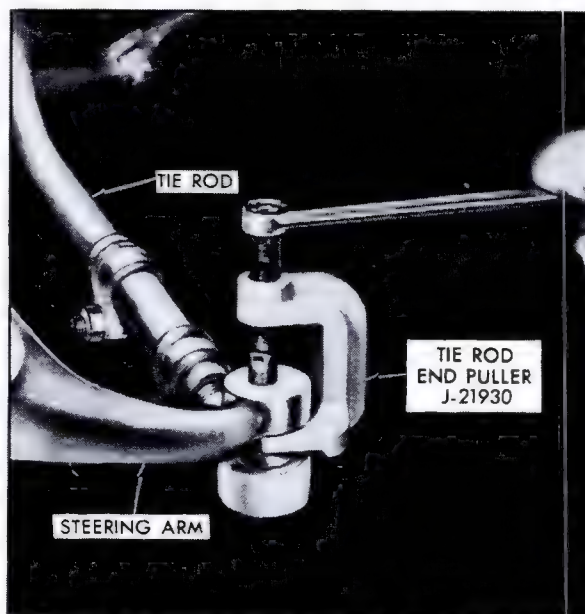

Fig. 9-39 Removing Tie Rod from Steering Arm
2. Remove outer tie rod pivots from steering arms, using Tie Rod End Puller, J-21930, Fig. 9-39. Be careful not to damage joint seals.